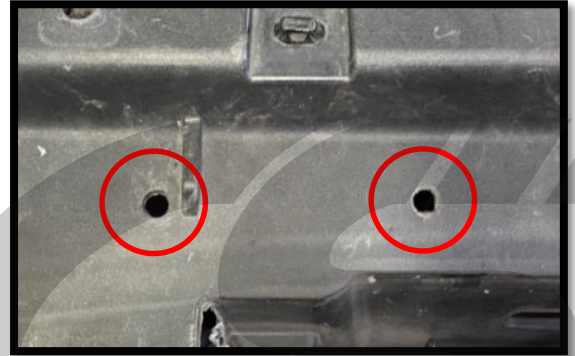

Figure 11g
- l) Clean the holes to remove any burrs or sharp edges. Once complete, your holes should look like **Figure 11g**.